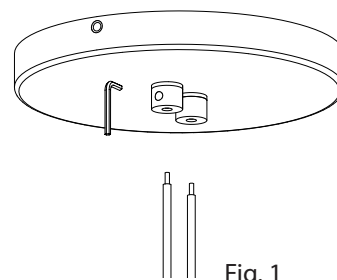

Fig. 1
3. Press down firmly on the top of the Power Bar, while pressing up on the bottom of the Hanger, until the Power Bar clicks into place. (Fig. 1). Repeat for the second Power Bar.